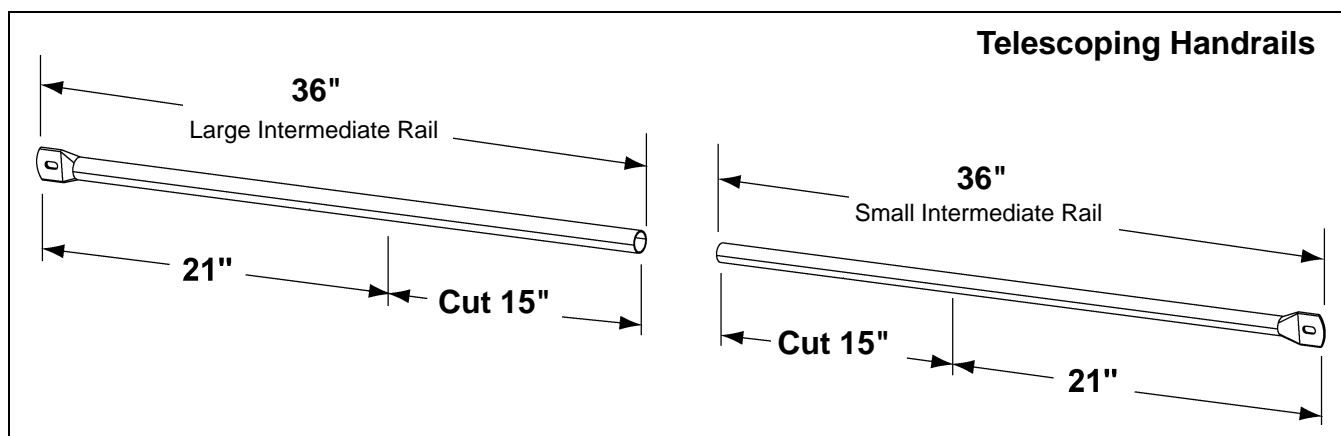

Figure 8S 21" Telescoping Handrail
2. Trim two (2) large and two (2) small rails by 15" each so that the remaining length of each rail, both small and large, is 21". (*See Figure 8S.*)